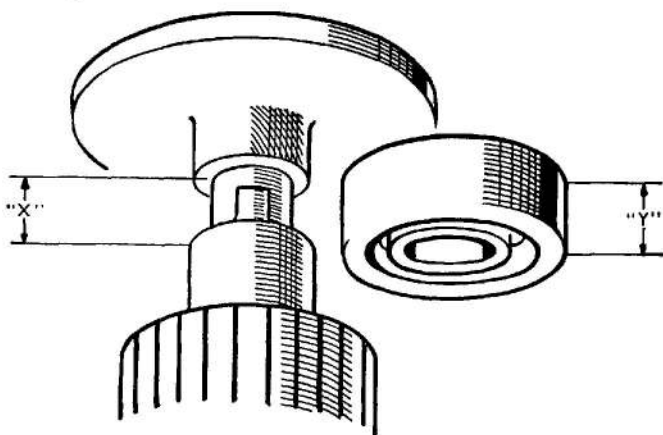

Fig. 2. Depth of ballrace in relation to armature and bracket plate
27. Fit the brake plate to the armature, ensuring that there is no "play" between the shaft and the brake. When new components are required, it is essential that the depth of the ballrace "Y" should be greater than the distance "X" shown in fig. 2.